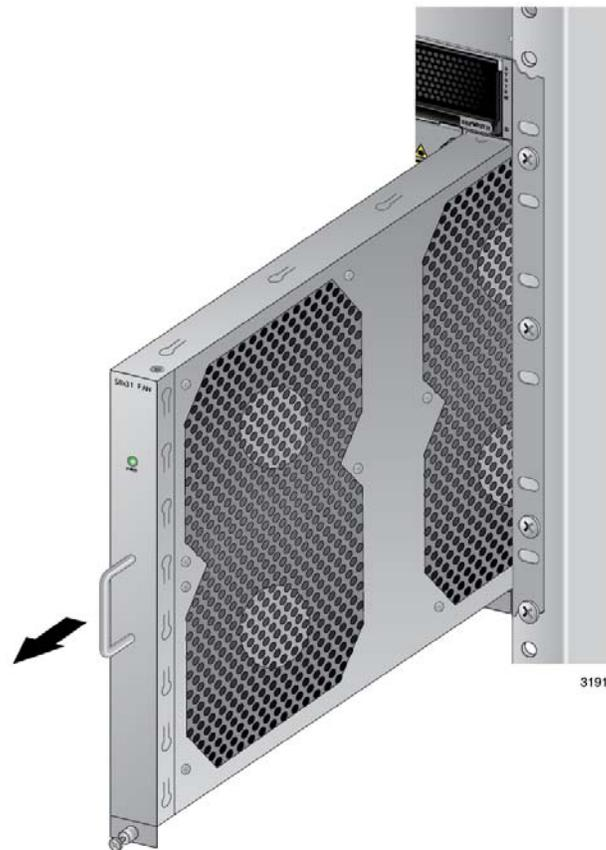

Figure 164. Removing the AT-SBxFAN12 Fan Module from the Chassis
9. After the fans have stopped, slide the module from the chassis. Refer to Figure 164 on page 259.